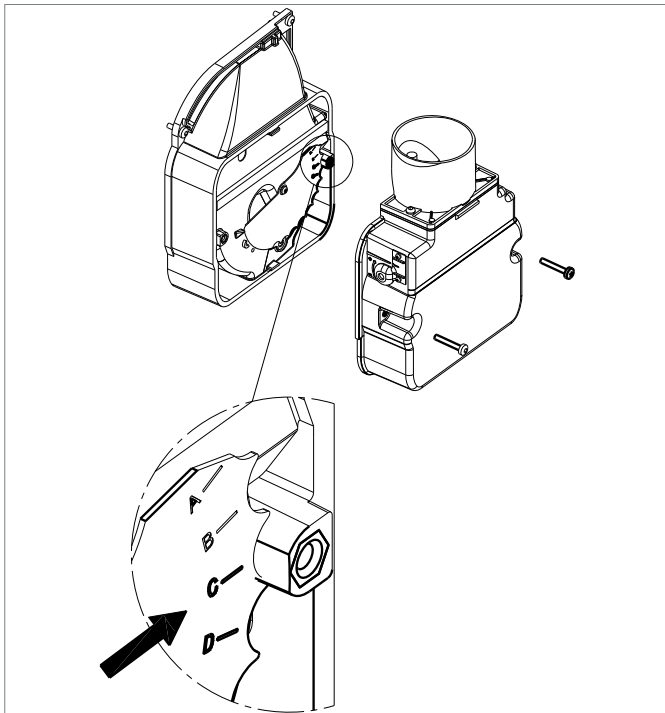

Figure 10-9: Air adjuster disc
It is essential, for correct operation of the burner, that this internal air adjuster disc is correctly set. Refer to Figure 10-9.
4. On 15-26 models, the air adjuster disc is supplied fitted on the fan housing. For 26-46 models, the disc must be fitted on the fan housing in order to downrate the output to either 26kW or 31kW. Refer to Figure 10-9.